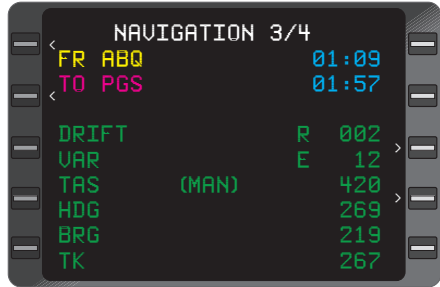

Figure 3-188
4. **ENT** Key - DEPRESS. **(MAN)** will appear adjacent to the **TAS** field. (Figure 3-188)